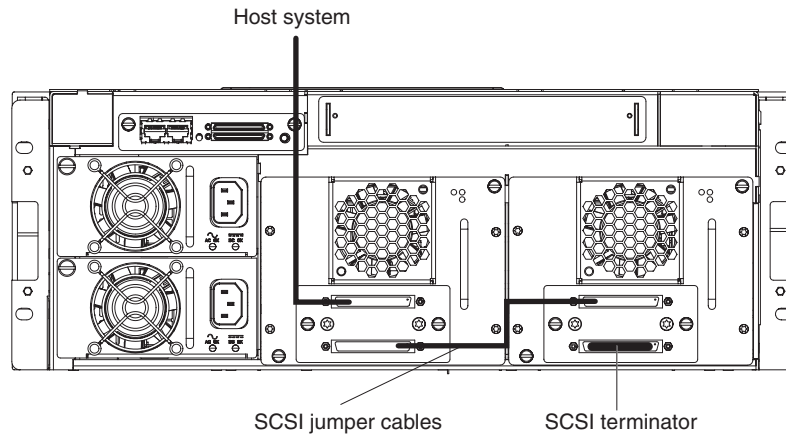

Figure 11. Install SCSI cables
14. Install the SCSI cables as shown in Figure 11 on page 13.